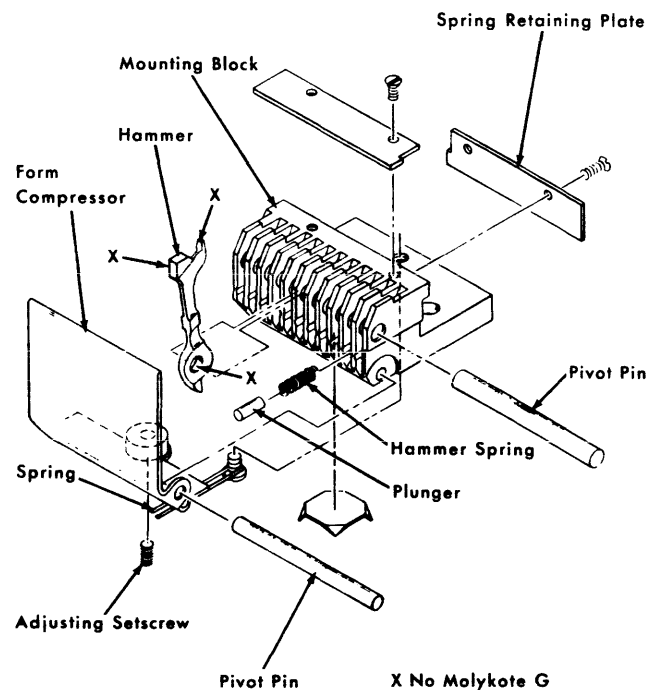

Figure 81. Hammer Mounting Block Assembly
3. Push the compressor pivot pin (Figure 81) out of the hammer mounting block and remove compressor.
5. Remove the hammer spring retaining plate (Figure 81) on the rear of the block. Be careful to retain all springs and plungers.
The pivot hole, print face and impression control surface must be kept free of Molykote G (see Figure 81). Perform steps 1 and 2, or 3, and steps 4 through 7.